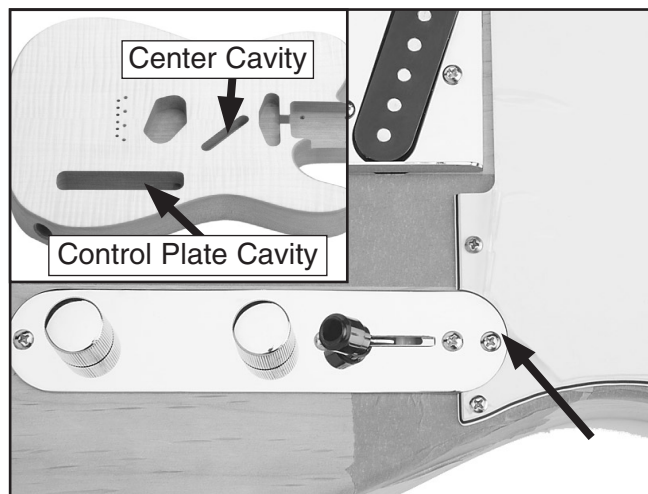

Figure 13. Control plate fits into pick guard.
1. Turn the guitar face up, thread the pick guard pickup wires through the center cavity (**Figure 13**) into the control plate cavity, then place the pick guard on the body.
3. Place the control plate on the body so it fits snugly into the curve on the pick guard as shown in **Figure 13**.